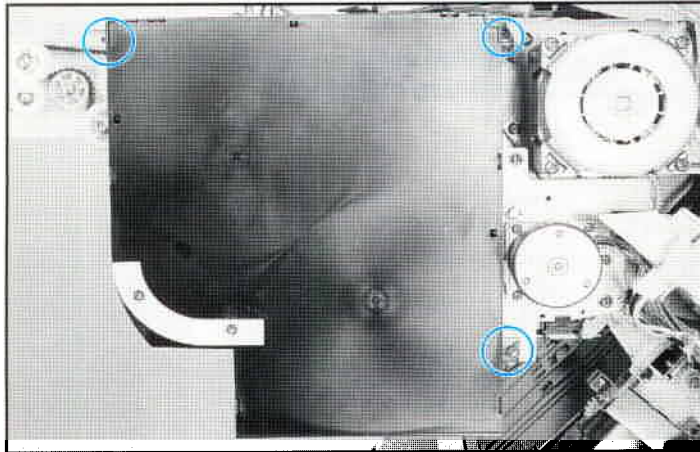

Figure 6-23 Developer Bias Assembly Removal
6. Remove (3) screws shown in Figure 6-23.